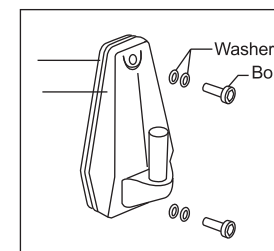

Fig. 2
1. The wall plate and the wall bracket are fixed together with bolts before delivery from factory. Use a wrench to separate them (See Fig.2).